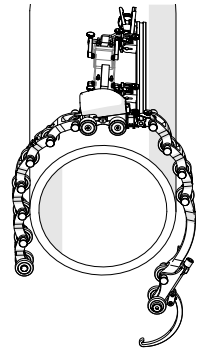

Fig. 146 - Drape onto pipe
5. Drape the configured assembly around pipe that will be inspected (Fig. 146).